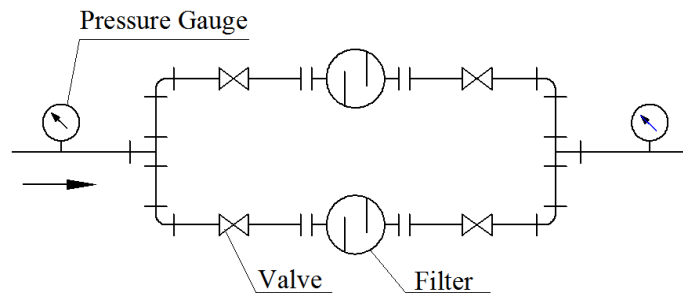

Fig.4 Recommended Installation Arrangement 1
(1) Flow Meter should be installed in horizontal pipelines, where vibration is less, humidity is low, and good raining-proof measures are taken with less corrosive atmosphere.
(2) Cleaning up the pipeline thoroughly before Flow Meter installation; an adaptable Flow Filter at the up-stream seems necessary to prevent Flow Meter from any impurities which may cause Flow Meter damaging or stalling.
(3) The Filter needs cleaning very often; to avoid Flow Meter Working interruption, an arrangement of two Filters installed in parallel at the upstream is recommended (see Fig.4); it is better to arrange suitable Pressure Gauges at up/down streams of Filters in order to check out any possible blockage and eliminate it in time by necessary cleaning.